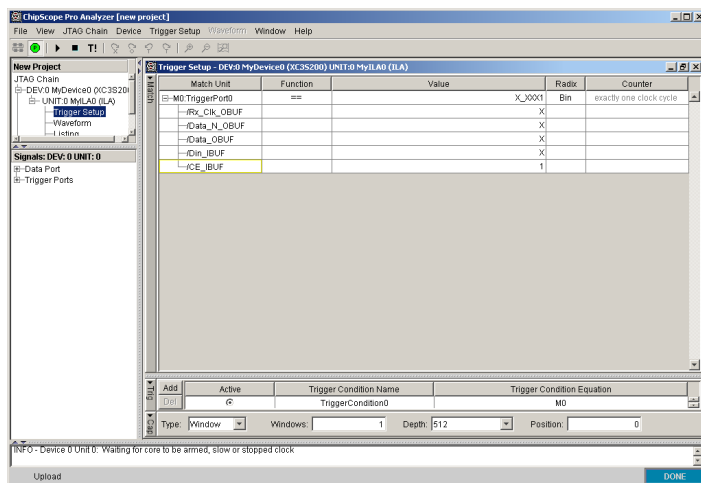

Figure 28
39. On the trigger setup window you can define different trigger conditions for initiating a data capture. Enlarge that window and enter the values as shown in Figure 28. With this setting data capture starts when SW0 on the board is in high position. Note that since the actual capturing starts on the rising edges of the clock (*Rx_Clk*) which is provided by the keyboard when you press a key on the keyboard.